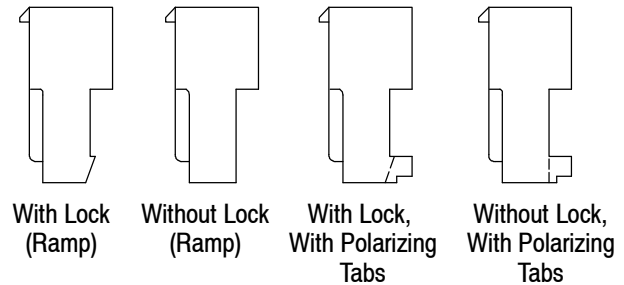

Figure 1
Terminating Head 58247-1 (shown in Figure 1) is designed to terminate discrete wire in MTA-156 IDC closed-end receptacle connectors with or without lock (ramp) and with or without polarizing tabs. Slotted contacts for insulation displacement termination are pre-assembled on 3.96-mm [.156-in.] centerlines in each color-coded housing for a specific wire size.
The head serves as a guide and support for the connector during termination. Features of the head (shown in Figure 1) and their function are as follows.
2. Align the contact to be terminated with the wire inserter of the head (shown in Figure 1). Make sure that the locating pawl rests between the connector index ribs.